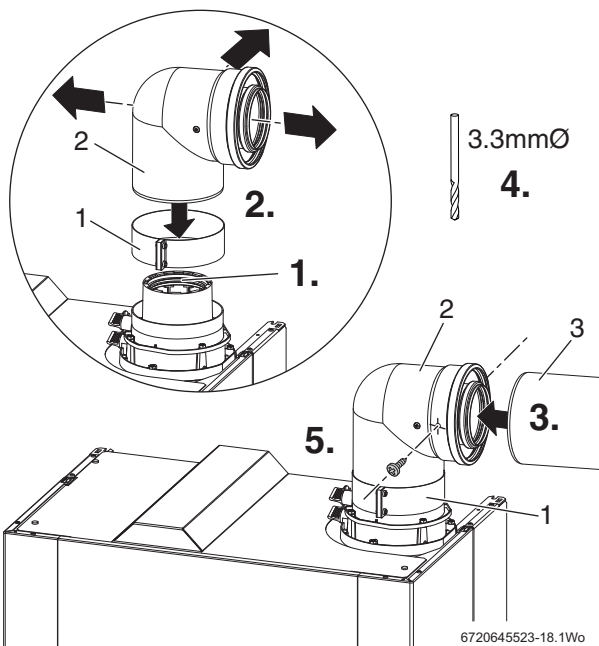

Fig. 32 Fitting the flue elbow
- 1. Refer to figure 32 and ensure that the seal is fitted correctly in the vertical adapter and apply a light smear of grease to the seal to aid fitting the vertical adapter.